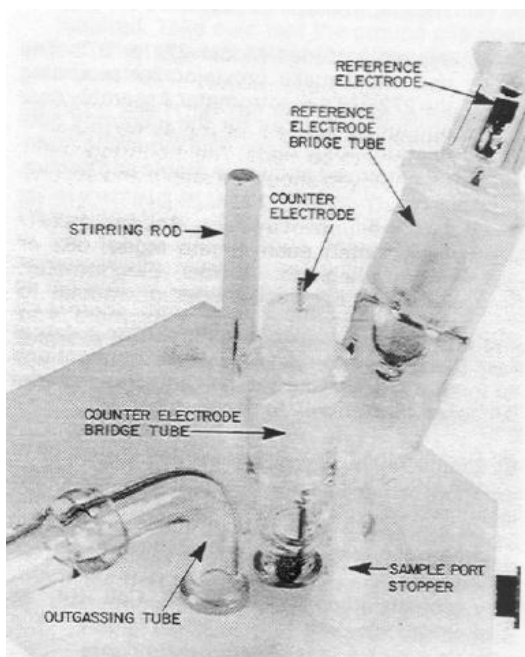

Figure 2: Top View of Assembled Cell
(5) Assemble the Model K0026 Cell Kit as follows.
- (c) Slide the Model G0195 Stirring Rod into the cell top as shown in Figure 2 and secure the rod into the flexible rubber fitting of the synchronous stirring motor.